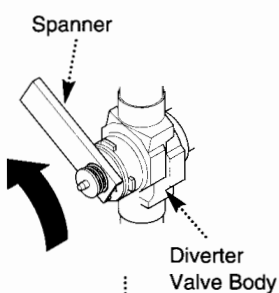

Fig. 67
2. Using the spanner in the spare cartridge kit, unscrew the cartridge anti-clockwise and remove it (Fig. 67 & 68) whilst holding the diverter valve body securely with a suitable tool.